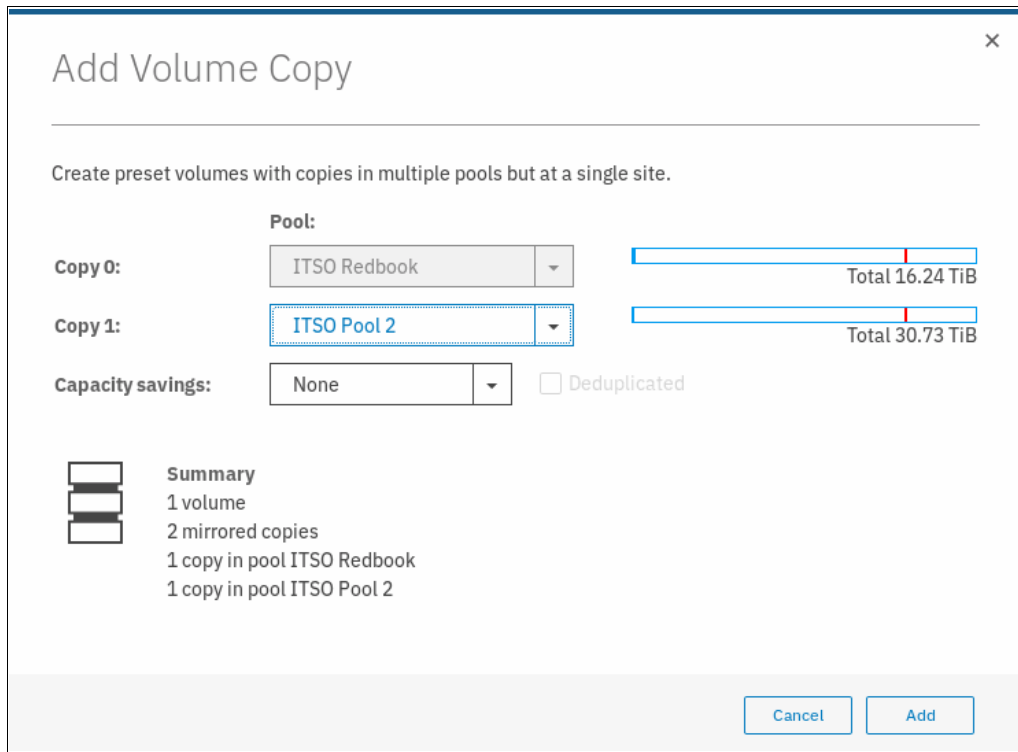

Figure 8-50 Add Volume Copy: Select a storage pool
2. Select the storage pool in which to create the copy. Select capacity savings, between None, Thin-provisioned, or Compressed. Click **Add**, as shown in Figure 8-50.